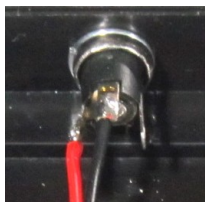

Figure 1
- ☐ Insert the DC power jack into the mounting hole in the orientation shown in Figure 1. Ignore the wires (for now).
- ☐ Referring to Figure 1, solder the BLACK lead of the power connector wire to the center lug of the power input jack.
- ☐ Again referring to Figure 1, solder the RED lead of the power connector wire to the left lug of the power input jack.